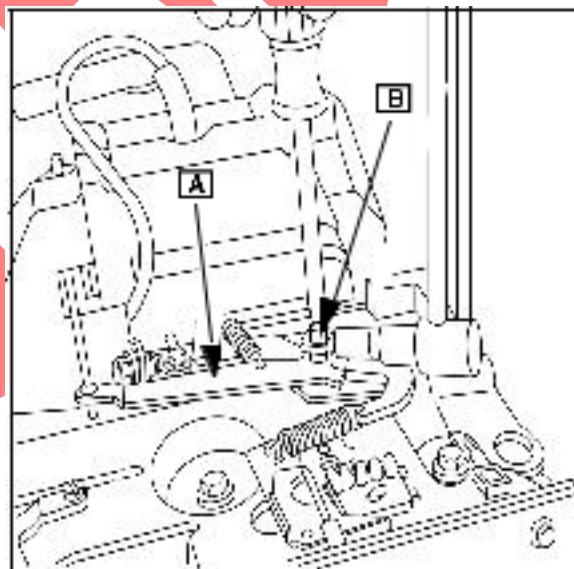

Fig. 25
1. Loosen nut holding governor lever ([A] Fig. 25) to governor crank.
4. While holding the throttle plate, rotate the governor shaft ([B] Fig. 25) until it stops in the direction noted in step 2.